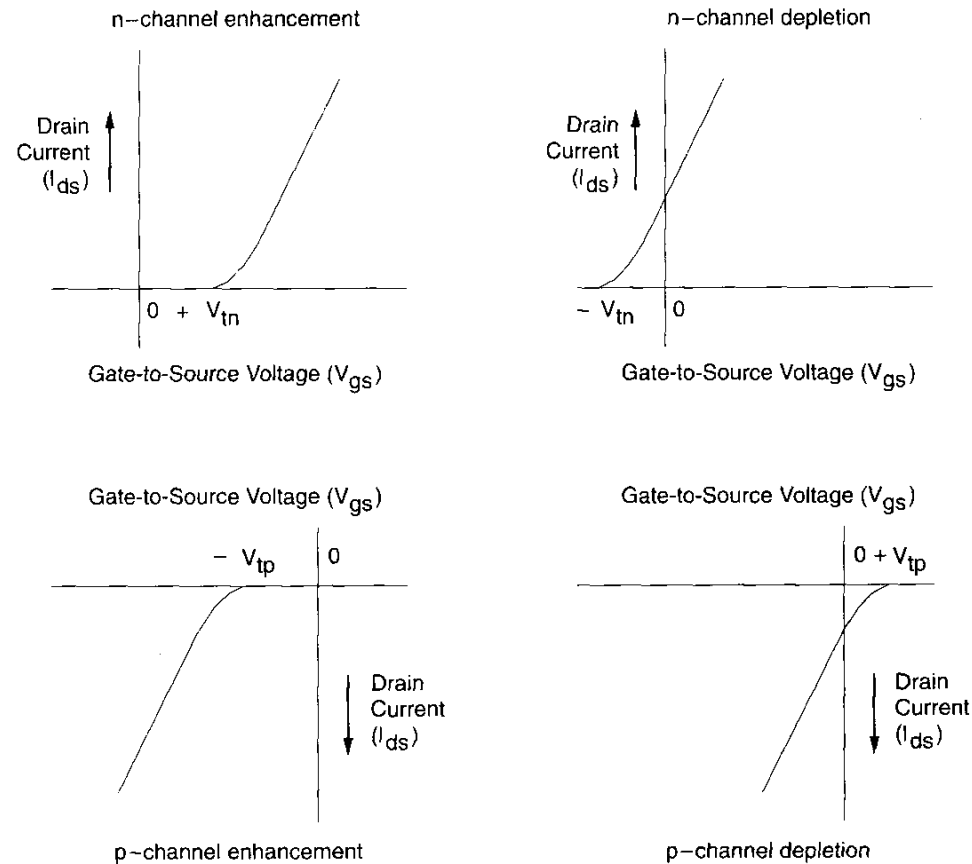

FIGURE 2.2 Conduction characteristics for enhancement and depletion mode MOS transistors (assuming fixed V_{ds})
- Note that the minus sign attached to V_{tp} and V_{tn} in Figure 2.2 should be deleted.